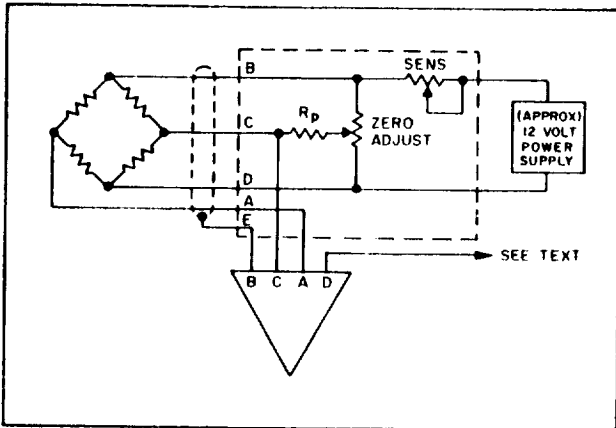

Figure 5-3. Strain Gage Circuit
- D. STRAIN GAGE MEASUREMENTS. Figure 5-3 illustrates schematically the strain gage input configuration. The output voltage of a typical strain gage varies between 0 and 10 mv; output impedance is either 120 or 350 ohms. Output voltage may be adjusted by adjusting the rheostat illustrated in the control unit. An increase in the exciting voltage of one volt usually increases the output of the gage by 1 mv or 2 mv, depending on the gage factor. The gage factor is the ratio of the input or